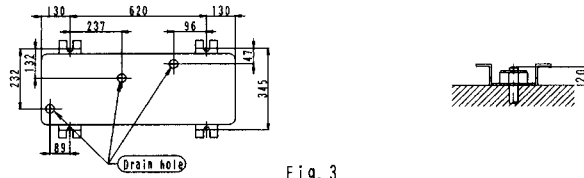

Fig. 3
- In accordance with the foundation drawing in Fig.3, fix the unit securely by means of the foundation bolts. (Prepare four sets of M12 foundation bolts, nuts and washers each which are available on the market.)